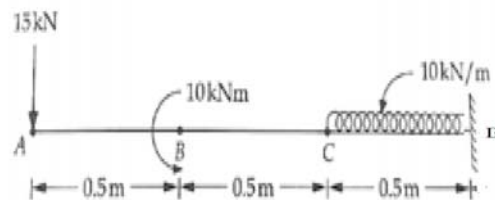

Fig. 5
- Draw shear force and bending moment diagram for the cantilever beam loaded as shown in figure 5.